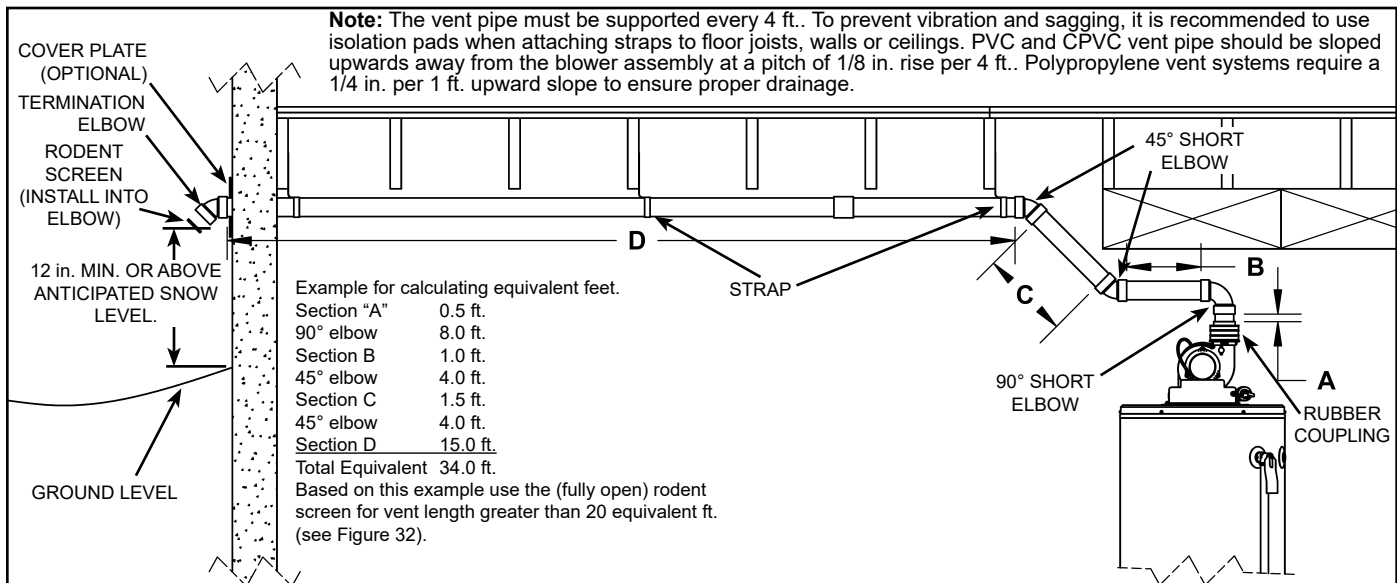

Figure 33.
This heater is designed to exhaust the products of combustion (flue gases) to the outdoors using a sealed piping system. Table 2 lists the allowable vent materials and sizing information. Figure 33 shows the general venting layout while Figure 34 through Figure 36 show various end termination details and clearances. Connection of the venting piping to the blower is shown in Figure 37 through Figure 39.
5. Calculate "Equivalent Vent Length" before starting. Do not exceed the values shown in Table 2. An example of how this length is determined is shown in Figure 33. The value from your calculations should also be used to determine which rodent screen to install into the vent termination elbow.